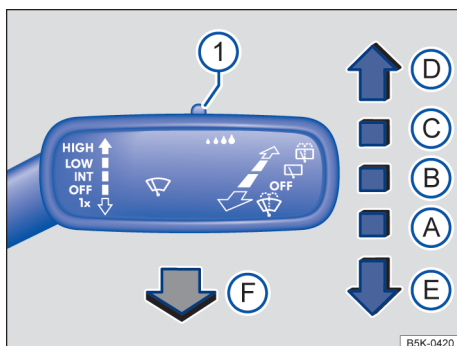

Fig. 80 Operating the front windshield wipers.
→ fig. 80 , → ①:
- ① OFF Wiper switched off.
- ② INT Intermittent wiping for the front windshield. Rain sensor active (if equipped).
- ③ LOW Slow wiper speed.
- ④ HIGH Fast wiper speed.
- ⑤ 1x One-tap wiping – brief wiping. Hold the lever down longer to wipe more often.
- ⑥ Pull the lever toward the steering wheel to activate the front windshield washers, then release.
- ⑦ Switch for adjusting the windshield wiper interval settings (vehicles without a rain sensor) or